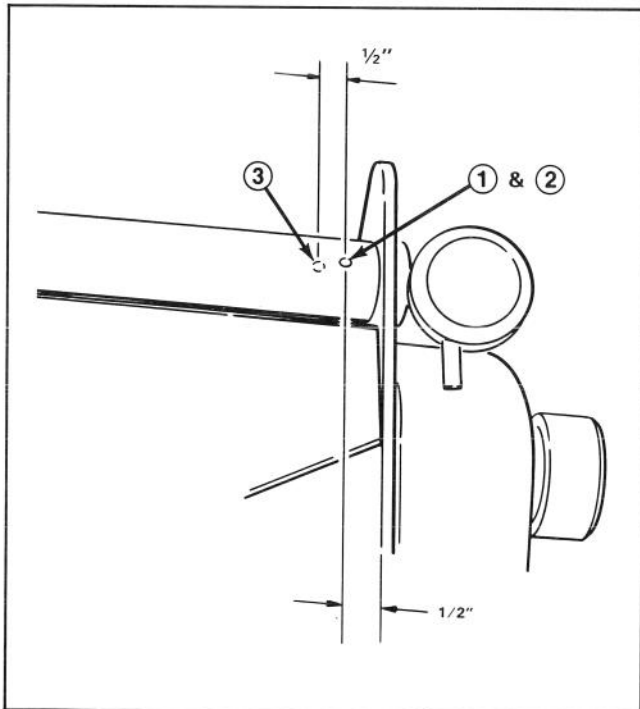

Figure 19
1. Carriage bolt (2)
2. Remove cotter pin (2)
3. Washer (2)
4. Adjustment knob (2)
5. Compressed spring (2)
- C. With the carriage bolt in alignment, drill a 7/32" hole through the frame tube and mounting block 3/4" in from the left and right side frame plates (Fig. 19). Adjustment mechanism must maintain proper orientation during drilling.